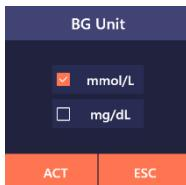

Figure 4.8
(1) Click “BG Unit” and the setting interface will pop up (as shown in Figure 4.8). Select “mmol/L” or “mg/dL” and then click “ACT” to save and exit or click “ESC” to exit without saving.